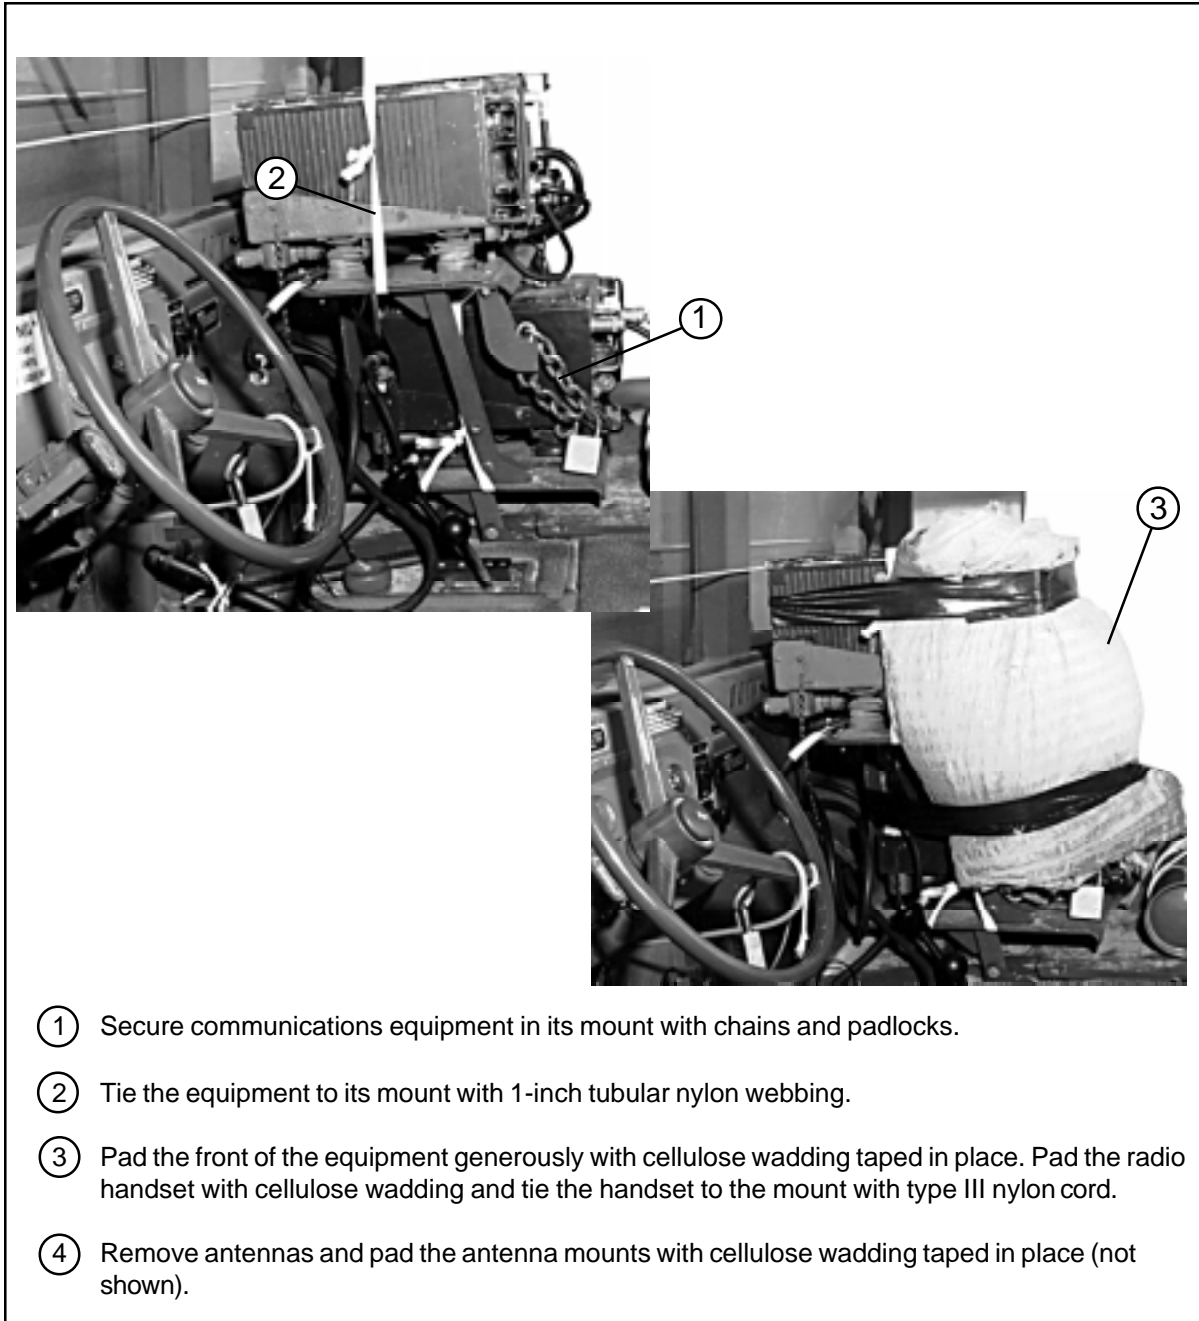

Figure 2-9. Communications Equipment Secured and Padded
e. Secure and pad radio equipment in the cab section as shown in Figure 2-9.